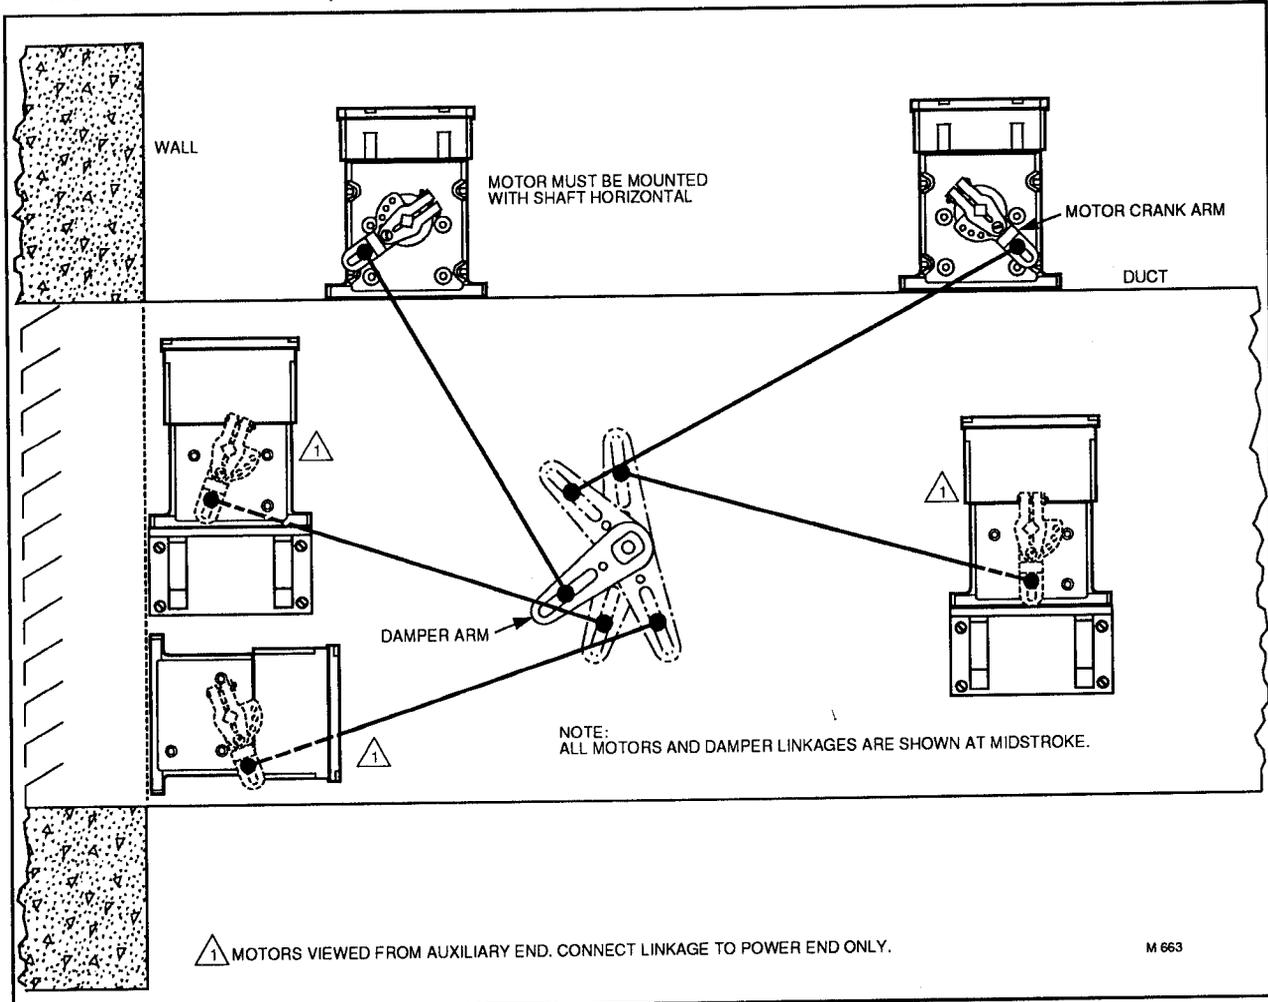

FIG. 5—MODUTROL MOTOR MUST BE MOUNTED WITH SHAFT HORIZONTAL.
5. The motor may be mounted in any position as long as the shaft remains horizontal (see Fig. 5).
The Q605F, Q605H and Q605J damper linkages are used for external motor mounting installations. Mount the motor in any position as long as the shaft is horizontal (see Fig. 5).